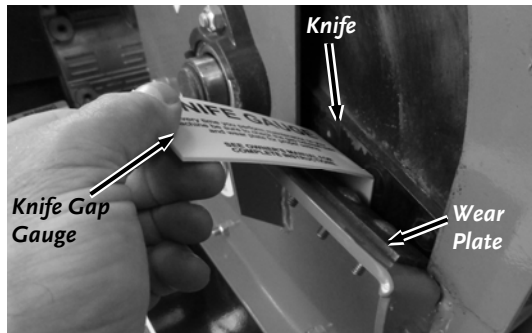

Figure 35
3. Slide the Knife Gap Gauge in between the Knife and Wear Plate to check the clearance (**Figure 35**).
5. Slide the Gap Gauge between the Knife and Wear Plate (**Figure 35**). Adjust the Wear Plate against the Knife Gauge and tighten the outside Locknut, check the gap, tighten the inside Locknut and then the center Locknut.